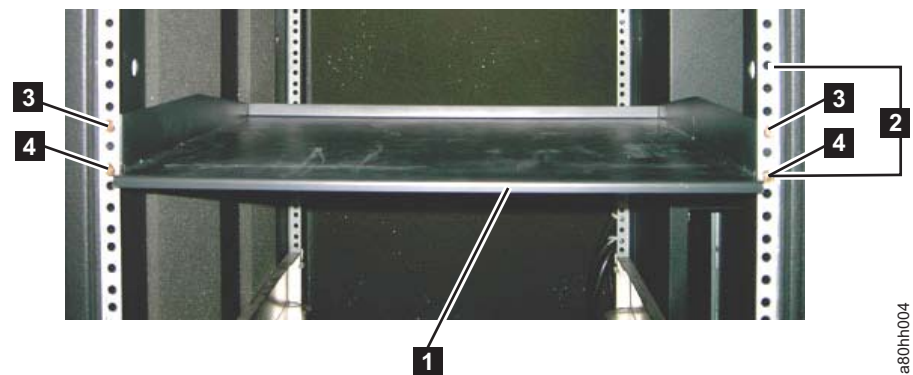

Figure E-1. Front view of shelf attached to rack rails
1. Decide at what level you want to install the shelf. The 3580 requires 3 units (EIAs) of rack space (see **2** in Figure E-1).